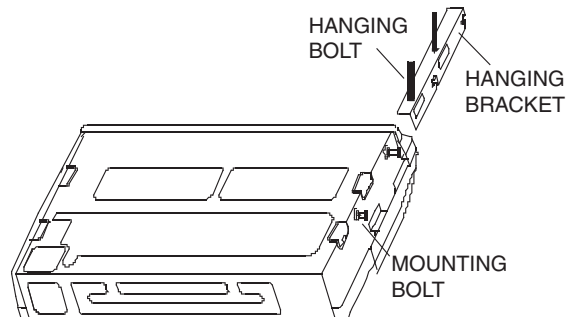

Fig. 9 — Securing Unit To Hanging Bracket
4. Slide the unit backwards onto the hanging bracket until the mounting hole on the unit lines up with the mounting hole on the hanging bracket. Secure the unit using mounting bolts as shown in Fig. 9.